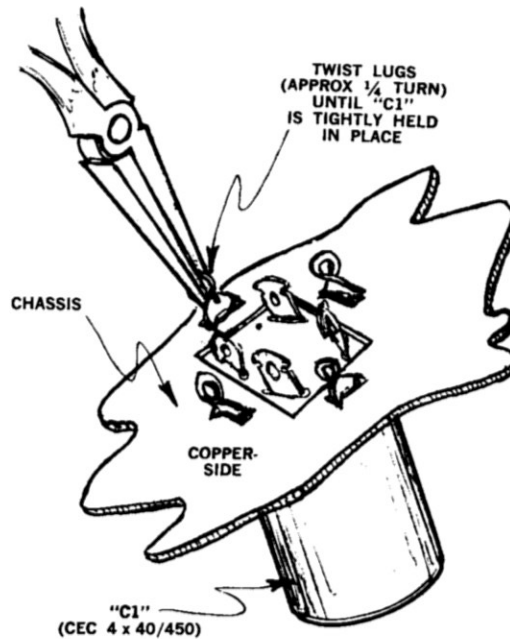

FIGURE 7
- A-1-8.** Install C1 (CEC 4X 40/250) in the slots marked C1, so that the little identification marks on the base (a triangle, square, and semicircle) agree with those shown on Chart A-2. Take your long nose pliers, grasp the outer mounting tabs firmly, and twist them $\frac{1}{4}$ turn each. This will seat C1 firmly. (See Figure 7.)